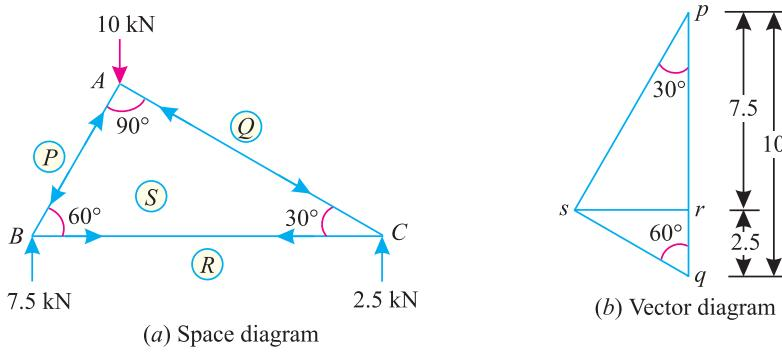

Fig. 14.4.
†First of all, draw the space diagram for the truss alongwith the load at its apex and the reaction  $R_B$  and  $R_C$  as shown in Fig. 14.4 (b). Name the members AB, BC and AC according to Bow's notations as PS, RS and SQ respectively. Now draw the vector diagram as shown in Fig. 14.4 (b) and as discussed below :
4. Similarly, draw vector diagram for the joint *C*, whose directions follow *q-r*; *r-s* and *s-q* shown Fig.14.4 (a) and (b). Now check the vector diagram for the joint *A*, whose directions follow *p-q* ; *q-s* and *s-p*.